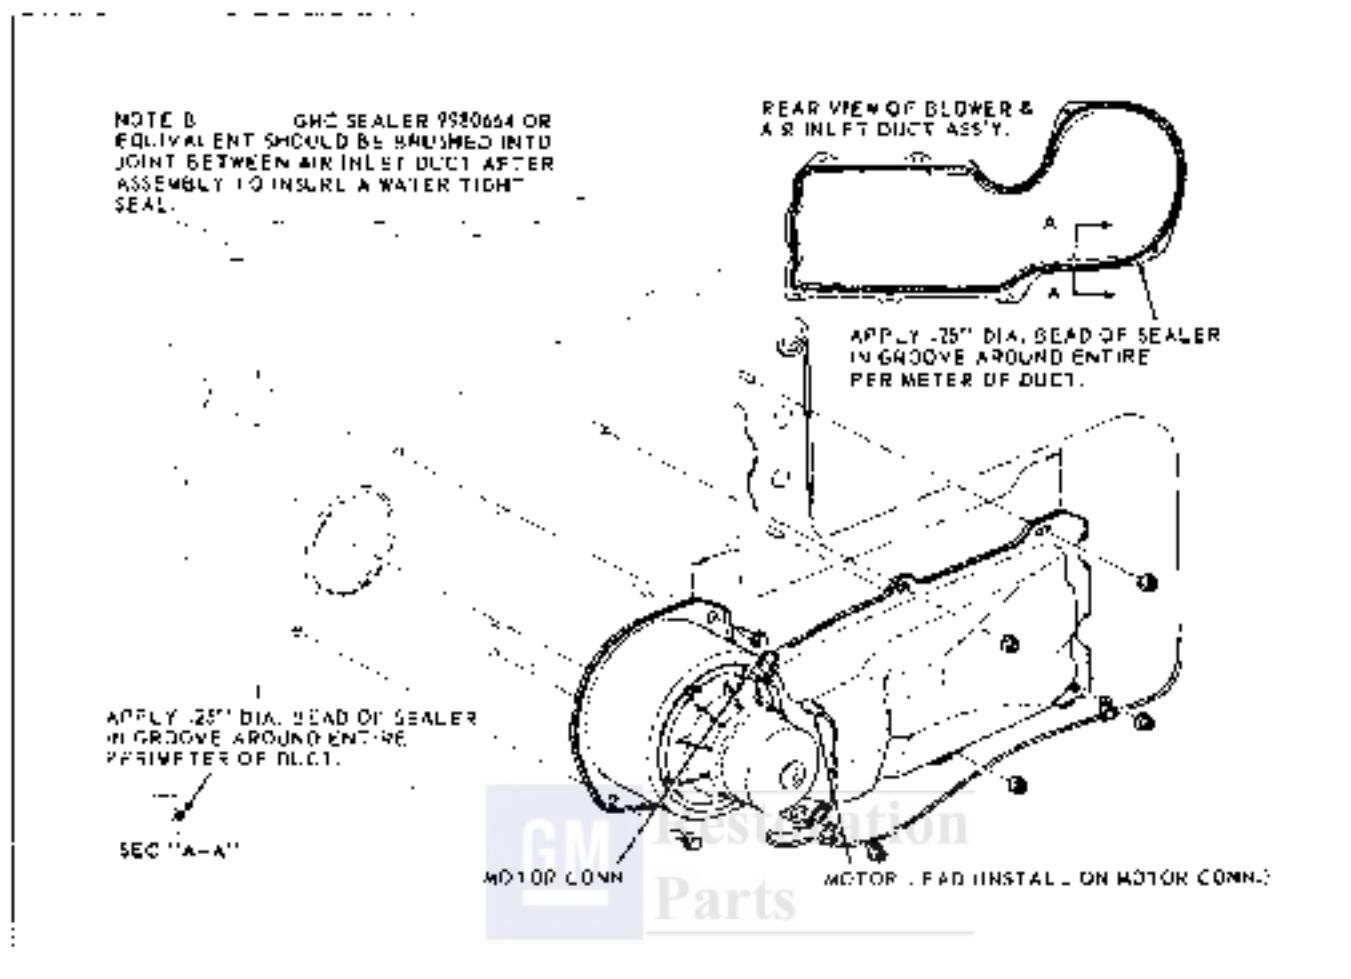

Fig. 1-7 Engine Compartment Details—Pontiac
1. Remove hood hinge to fender retaining bolts (Fig. 1-7).
- NOTE: If removing duct drill two (2) one inch holes in fender skirt for removal of outward duct retaining screws.*
PONTIAC (Fig. 1-7)
HEATER HOSE INLET AND OUTLET REMOVE AND REPLACE—ALL MODELS (Figs. 1-7, 1-8 and 1-9)